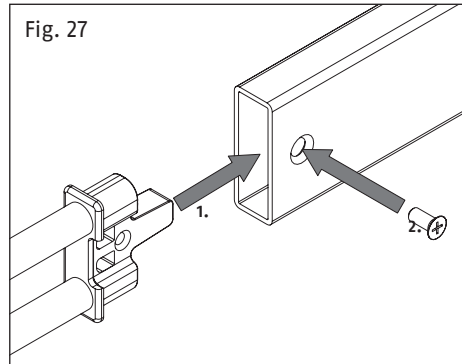

Fig. 27
- Insert the door bar end piece with round bolts and tighten with the screw of accessory article **PWA2700** (Fig. 27).